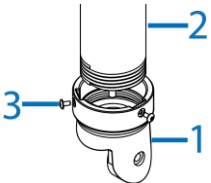

Figure 7
1. Place the pendant/pole mount adaptor (1) (Figure 7) around a standard 1 ½" Male NPT threaded water pipe (2) (Figure 7) and securely attach the two M3x0.5P (L = 6mm) screws on the pendant mount adaptor with the T10 security Torx wrench.